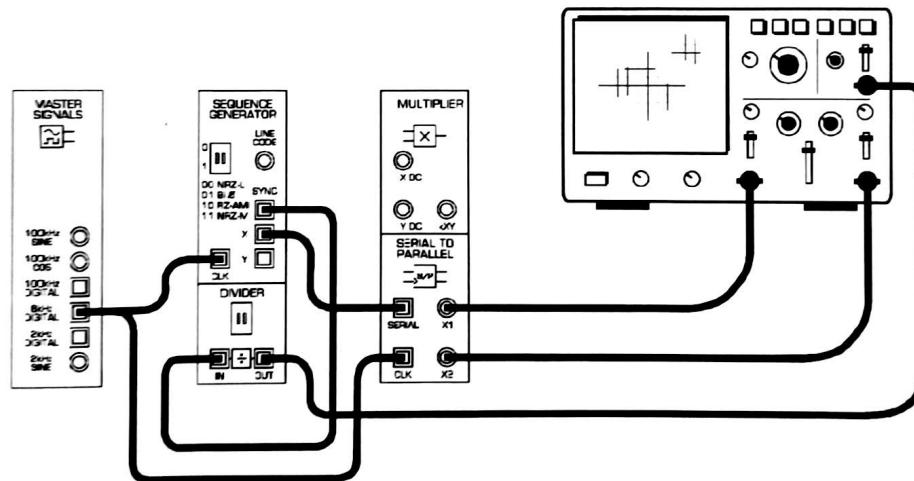
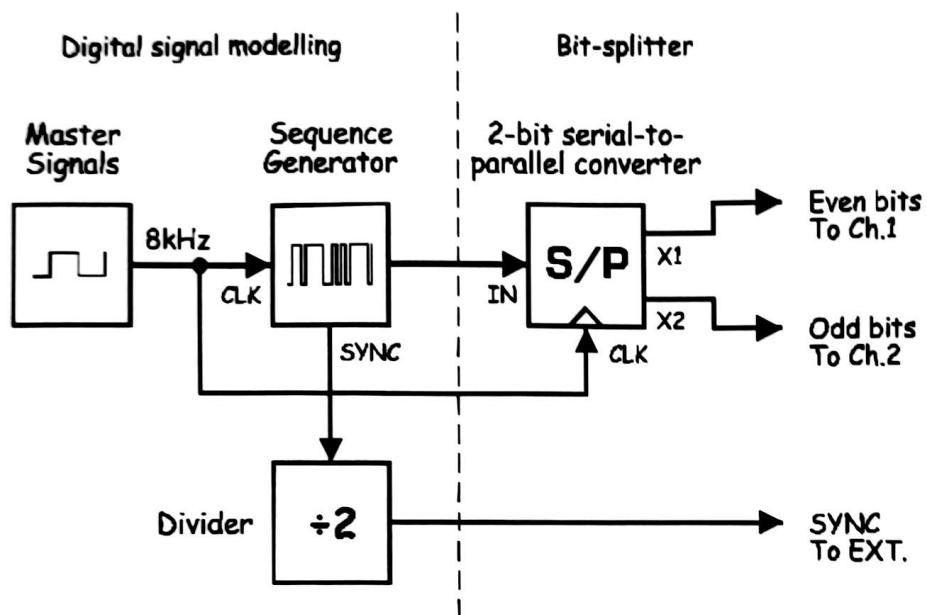

Figure 3
Figure 4
8. Connect the set-up shown in Figure 3 below.
The set-up in Figure 3 can be represented by the block diagram in Figure 4 below. The Sequence Generator module is used to model digital data. The 2-bit Serial-to-Parallel Converter module is used to split the data bits up into a stream of even bit and odd bits.